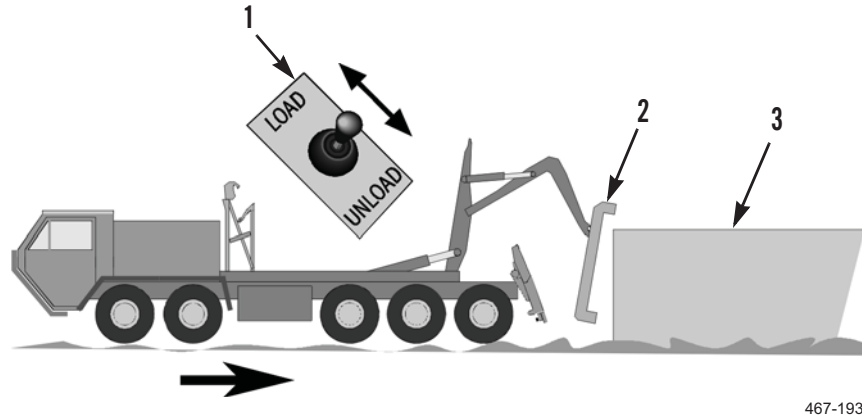

Figure 1. Position Upper Guides Above Container.
- Reverse vehicle to position upper guides on lift frame (Figure 1, Item 2) just above top of container (Figure 1, Item 3). If necessary, use joystick (Figure 1, Item 1) to adjust height of lift frame.